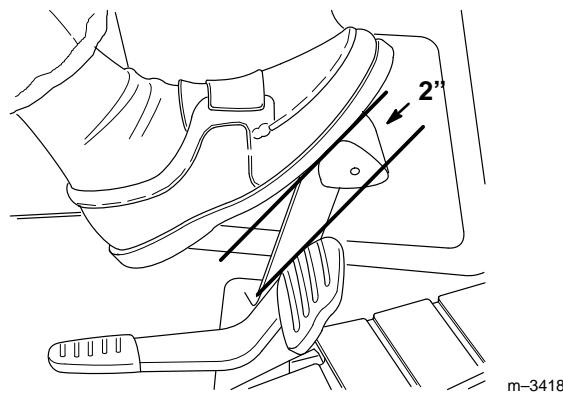

Figure 38
- Depress the brake pedal. There should be 2" (51 mm) of free travel (Fig. 38) before the brake begins to engage.